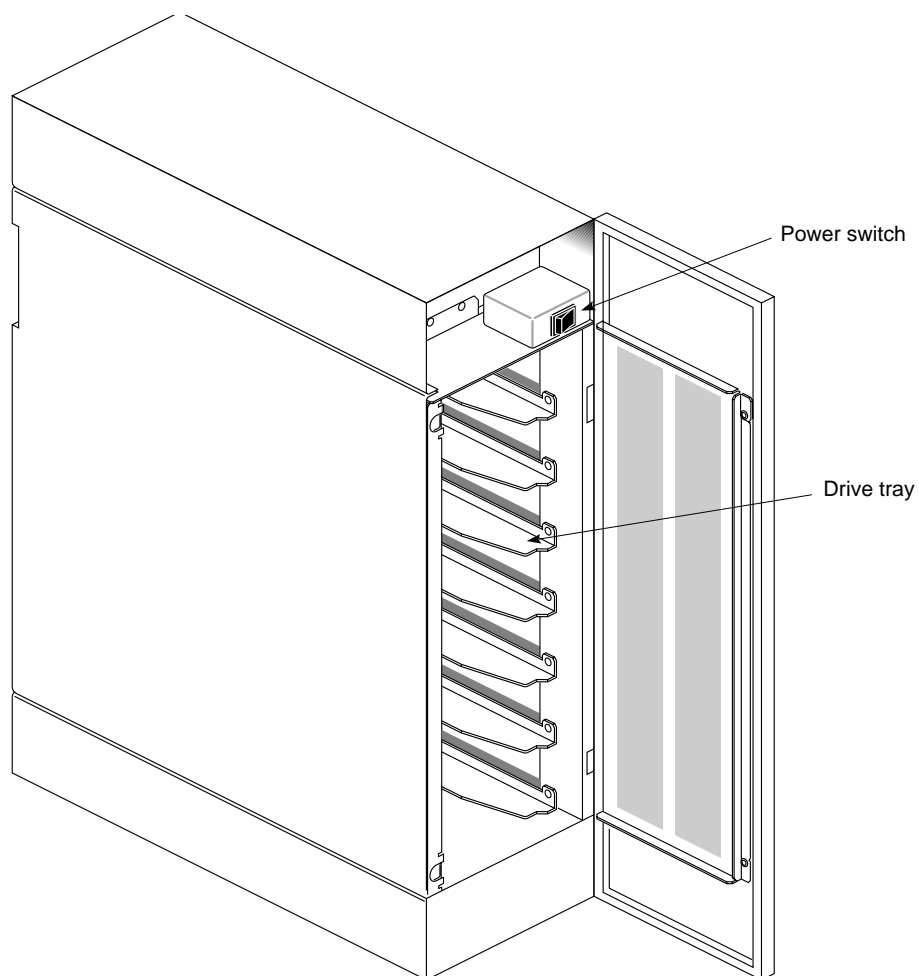

Figure 1-2 CHALLENGE Vault L (Drive Door Open)
To open the door, push the knob in and turn it counter-clockwise. To close the door, push the knob in and turn it clockwise. Figure 1-2 shows the Vault L storage box with the drive door open.
On/Off switch controls power to all the drives (see Figure 1-2).
5. After you have installed all of the drives, you can power on the drive box and rack. See Figure 1-2 in Chapter 1, "Touring the Chassis," earlier in this guide for the location of the power switch.
The power switch for the Vault L storage box is located in the front, as shown in Figure 1-2 in Chapter 1, "Touring the Chassis," earlier in this guide. It is recommended that you always power up the Vault L first before powering up the host system. If you need to bring down the entire system, turn off the Vault L first before shutting down the host system.